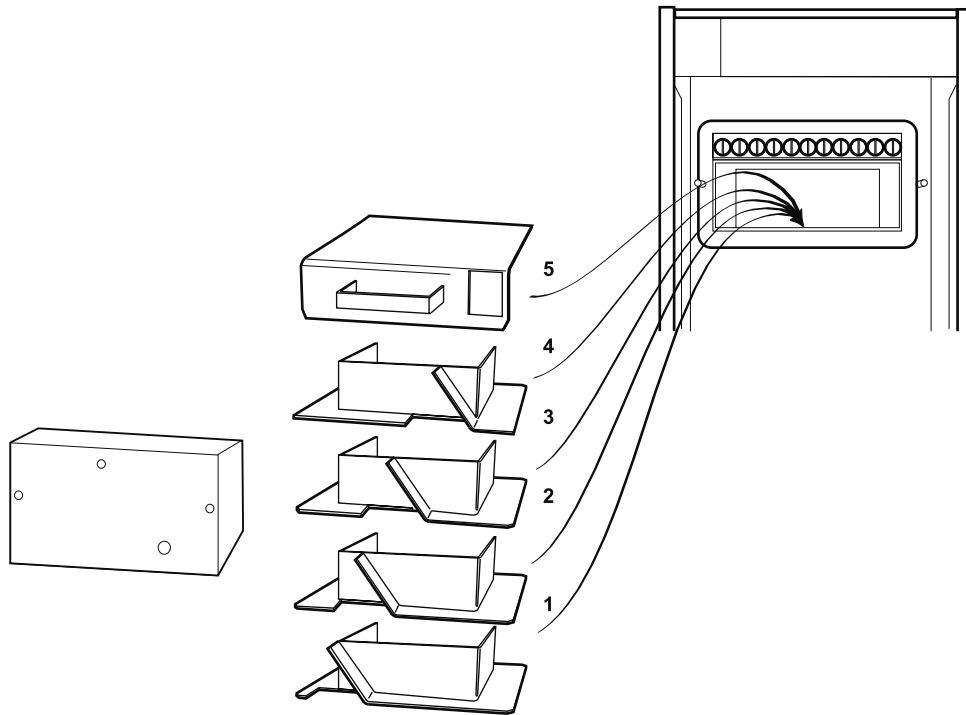

Fig. 20 - 15/21, 21/26 baffles
- 2 Remove the baffles as shown in Fig. 20 or 21.
- 6 Replace the baffles, ensuring they are correctly fitted. See Fig. 20 or 21.